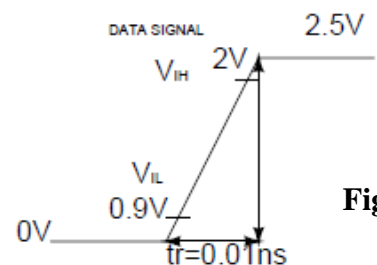

Fig 1c
- d) In an SOC, 10 identical synchronizers are designed to communicate 10 bit data signal (shown in Fig 1c) from one subsystem operating at frequency $F_1=10\text{ M Hz}$, to another subsystem operating at frequency $F_2=10\text{ G Hz}$. It is desired to latch the data signal in one time period of F_2 . Calculate the value of mean time between failure **MTBF** if the time constant τ of bi-stable element of synchronizer is 80ps. Also calculate the time duration of metastability window of synchronizer